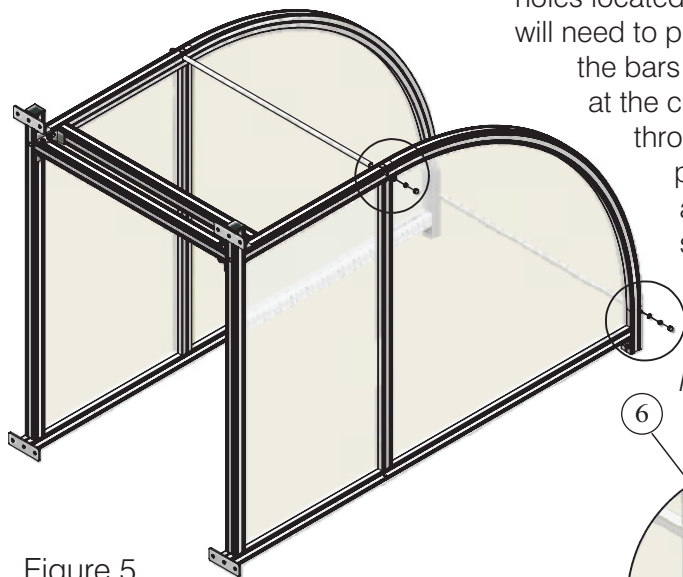

Figure 5.
5.) Attach the retaining bars (6) from one side, sliding through the holes located in the sideframes. This will require 2 people as one will need to push the bars through while the other will need to slide the bars through the retaining tubes (8) to space the sections at the correct length (Figure 5). Once the retaining bar is through both sideframes there should be approx 15mm protruding either side. This allows the bar to be fixed and tightened at each end. This is done by placing a skiffy washer (19) on first and then fixing with BOL400 (13). Hand tighten this at first as you will need to allow movement between the sideframes when fitting the plastic later.